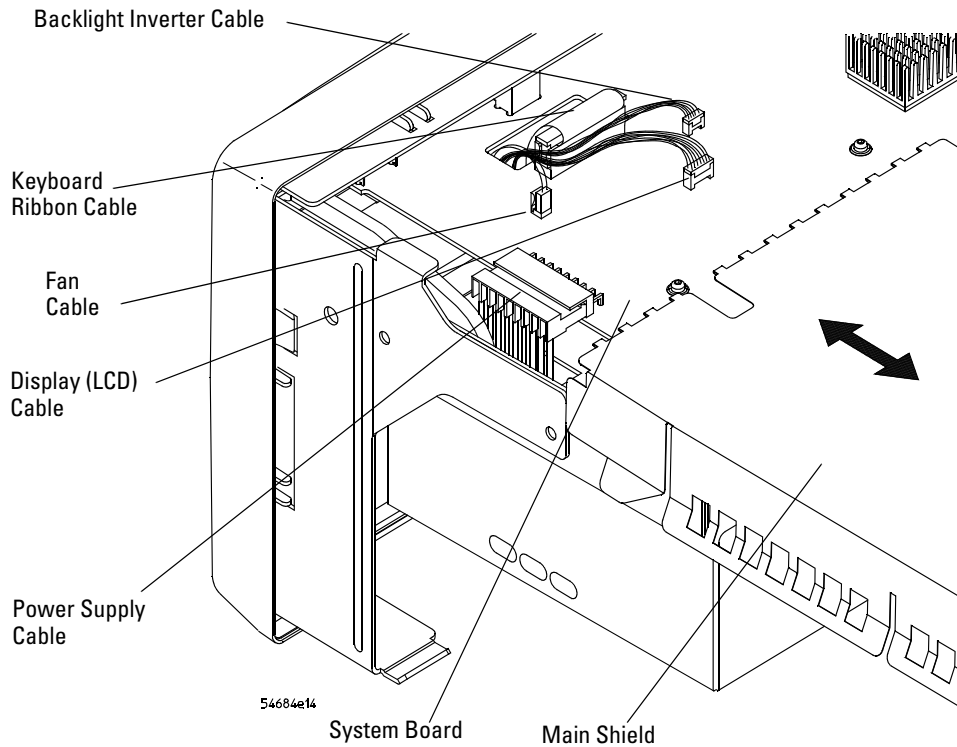

Figure 37 Preparing to remove the system board
- f** Ensure that the backlight, fan, and LCD cables are routed to the left of the keyboard ribbon cable as shown in Figure 37 on page 107.